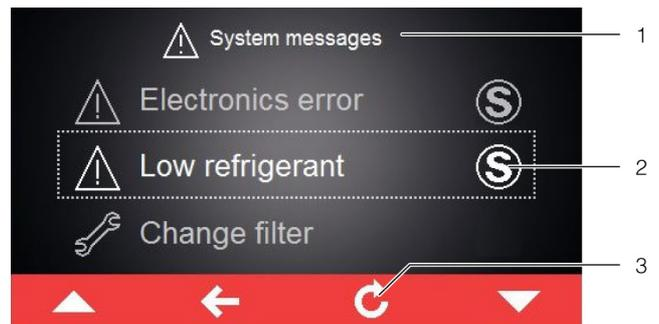

Fig. 26: Screen showing error messages
If an error message applies that cannot be resolved by the operator himself and which is not reset automatically, the "Service" symbol will appear after the error message and in the control bar next to the symbol for system messages (fig. 26, item 2).